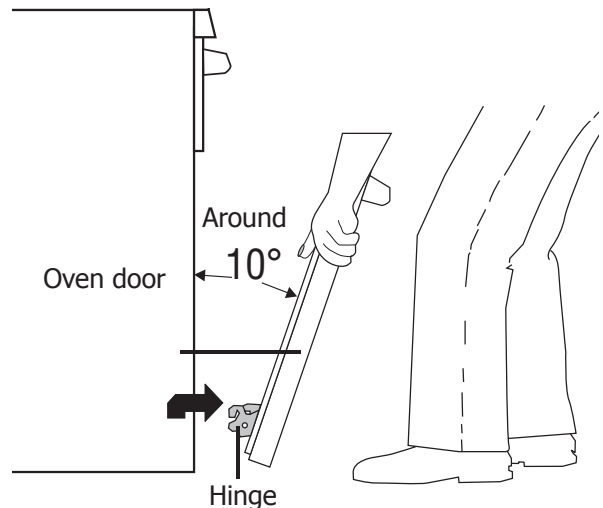

Figure 3
4. Firmly grasp both sides of oven door along the door sides (Do not use the oven door handle - See Figure 3).
1. Firmly grasp both sides of oven door along the door sides (Do not use the oven door handle - See Figure 3).